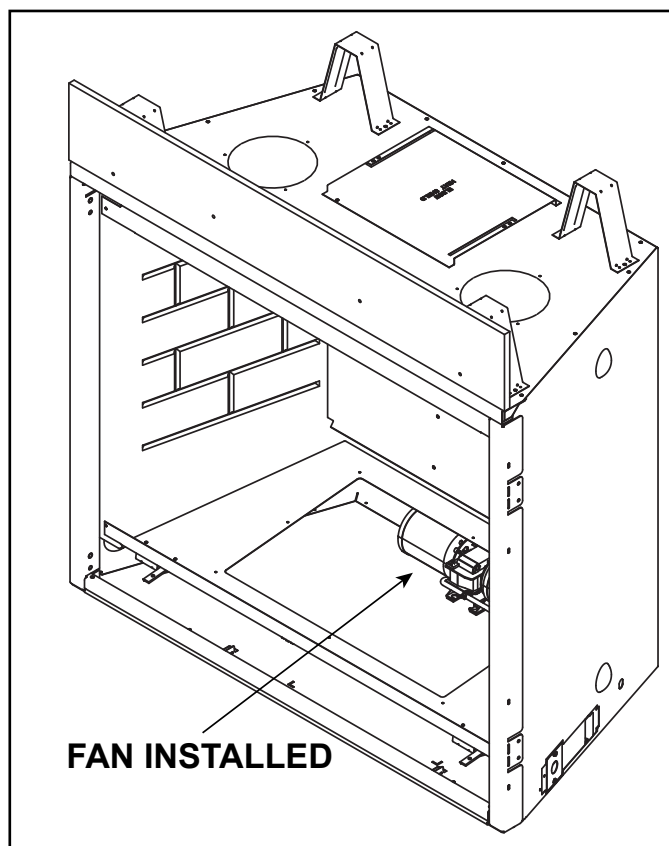

Figure 8.6 Fan Installed in Valve Plate Cavity
- Install fan through the valve plate cavity. See Figure 8.6.
- Service can be performed through the valve plate cavity. See Figure 8.6.